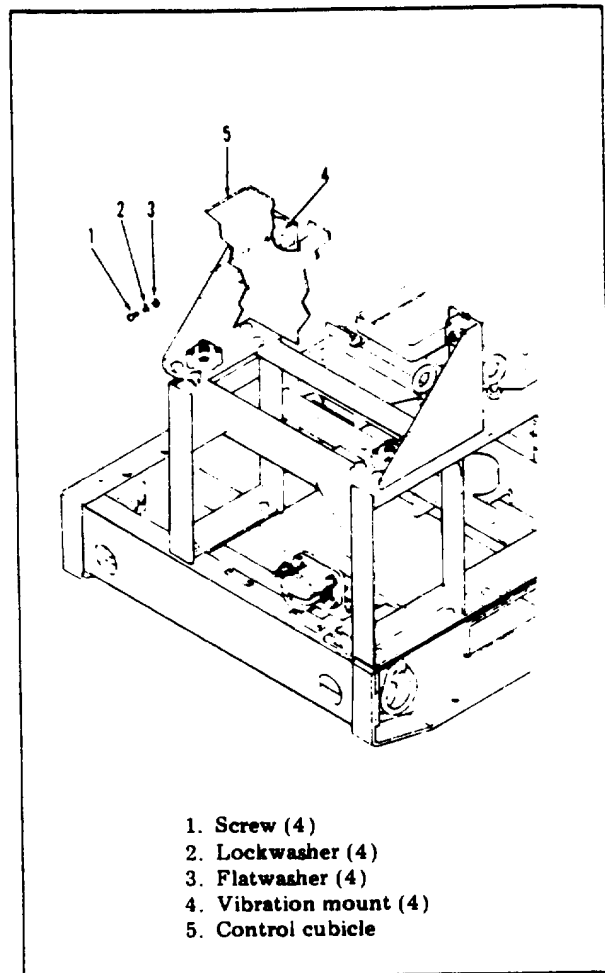
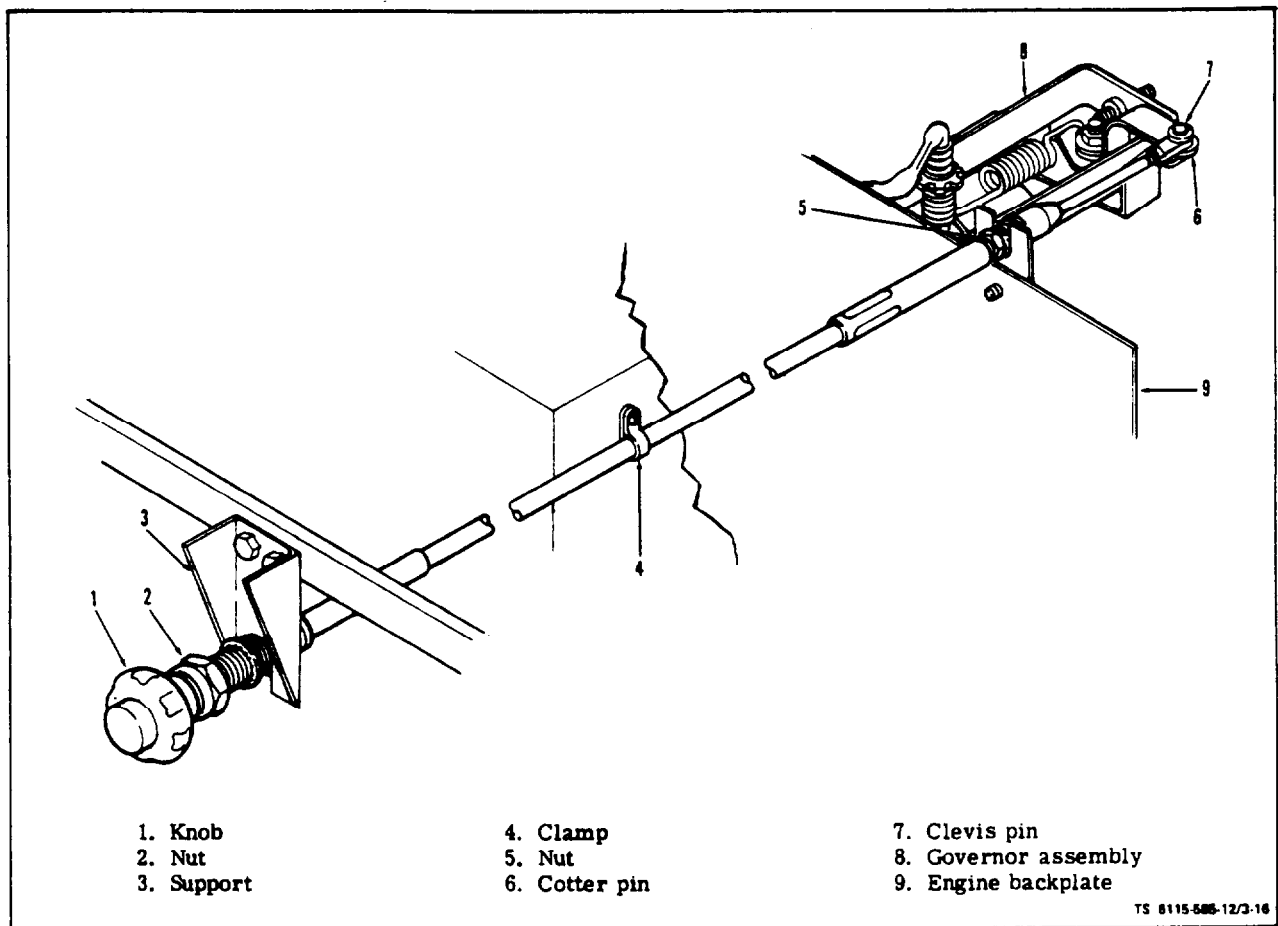

Figure 3-15. Control Cubicle Support Assembly
Figure 3-16. Speed Control Assembly
(1) Vibration Mounts (Four) (see figure 3-15). Inspect vibration mounts for deterioration or physical damage. Inspect mounts to see that they are free of dirt, fuel, or oil. Check to see that mounts are securely attached to control cubicle support on skid-base. If mounts are faulty, refer to higher level of maintenance.
(2) Engine Control Wiring Harness Assembly. On ASK equipped generators, open or remove all access doors. Inspect wiring harness for broken or frayed wires. Check for wires with damaged or deteriorated insulation. Check that all connectors and terminals are clean and tight.
(3) Speed Control Assembly (see figure 3-16). On ASK equipped generators, lift motor speed control flap. Inspect to see that speed control is firmly attached to unit. Check that speed control moves in and out freely. If speed control is loose, refer to higher level maintenance.